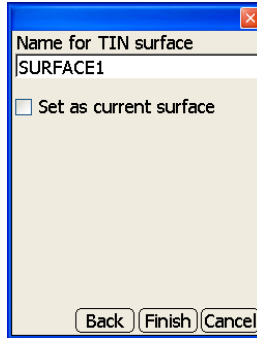

Figure 2-10. TIN Surface Parameters
4. On the **TIN surface parameters** dialog box, set the following parameters and press **Finish** to save the file (Figure 2-10):